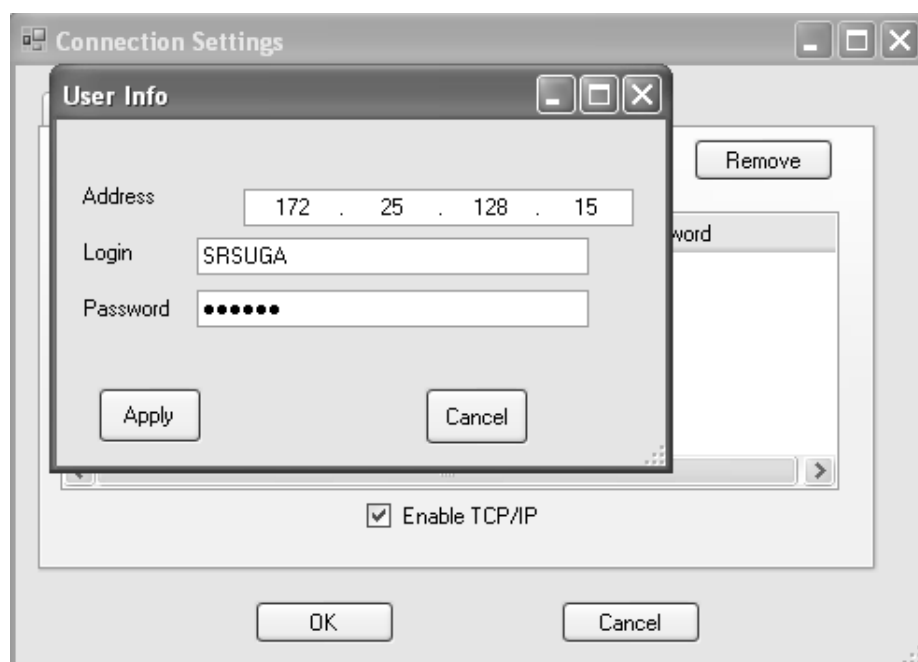

Fig. 2-7. Screenshot of 'TCP IP' selection in the 'Connection Settings' dialog box. TCP/IP connection setting is established here.
- In the Main menu, select 'Connection Settings'. The 'Connection Settings' dialog box will pop up as shown in Fig. 2-7.